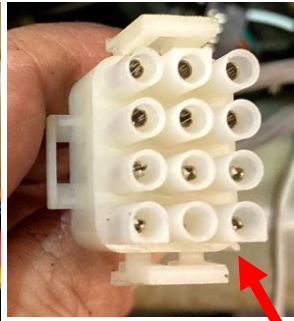

Figure 75
75. Reattach the gray 12-pin harness to the bottom plug on the rear of the component box. Pin 1 (denoted by the tab) is in the lower right corner (see Figure 75).